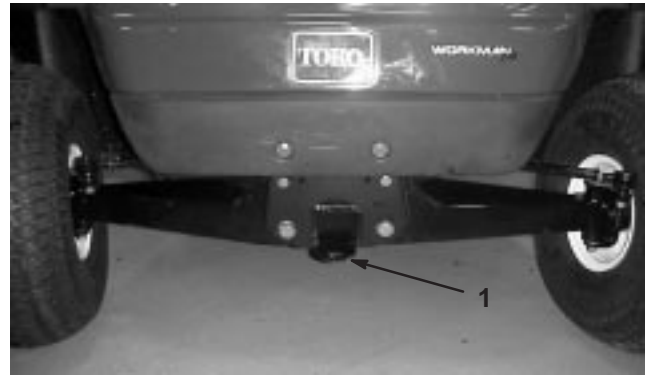

Figure 22
2. Affix a tow line to the tongue on the front of the frame (Fig. 22).